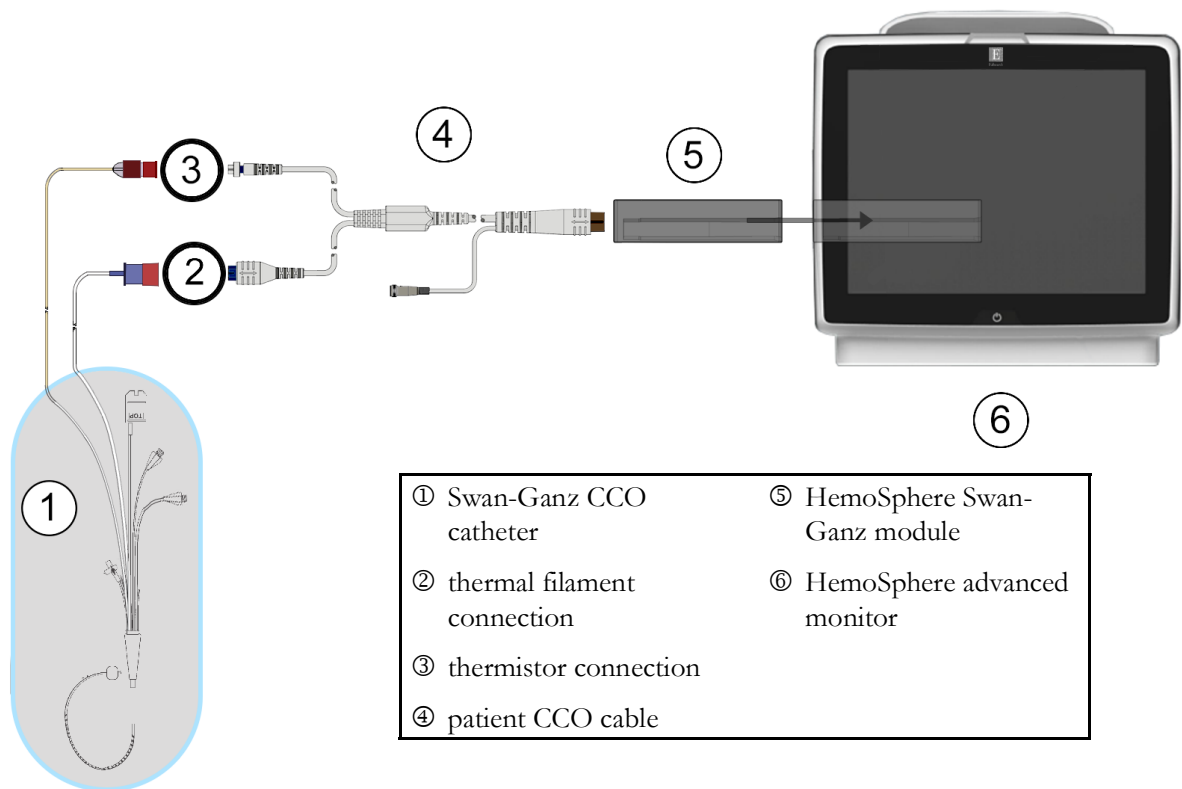

Figure 9-4 CO connection overview
- 2 Attach the catheter end of the patient cable to the thermistor and thermal filament connectors on the Swan-Ganz CCO catheter. These connections are emphasized as numbers ② and ③ in figure 9-4 on page 163.